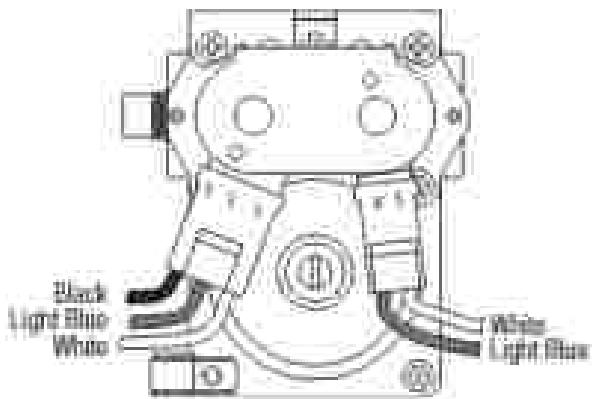

Figure 2 • Measuring gas valve resistance.
3. Use an ohmmeter to determine if a gas valve coil has malfunctioned. Remove harness plugs. Measure resistance across the terminals (see Figure 2). Readings should match those shown in the following chart. If not, replace coil.